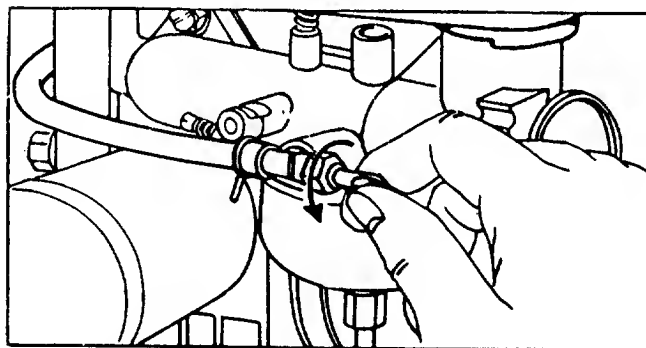

FIGURE 11.
1. Be sure the fuel shut-off valve is open. See figure 11.